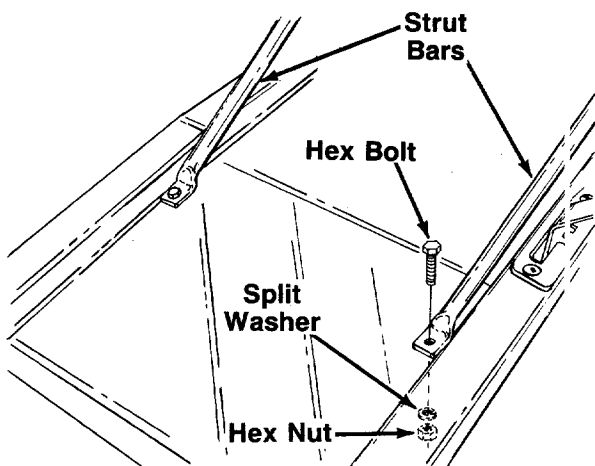

FIGURE 2.
- Attach the strut bars to the frame with hex bolts, split washers and hex nuts. The lock washers and hex nuts go beneath the frame. See figure 2. Do not tighten.